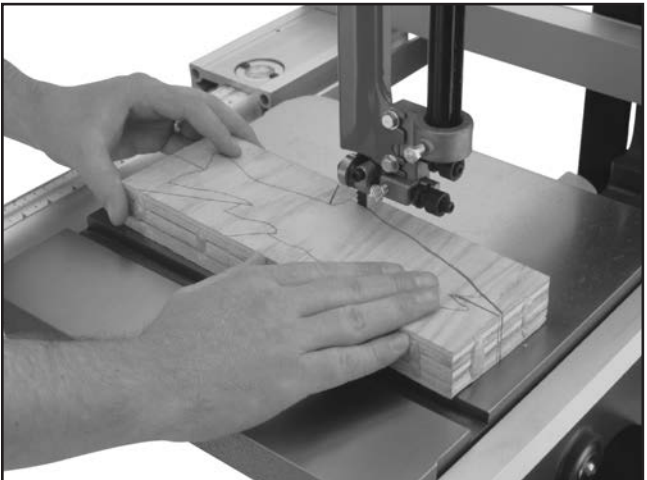

Figure 35. Typical stacked cut.
5. Cut the stack of pieces as though you were cutting a single piece. Follow your layout line with the blade kerf on the waste side of your line as shown in **Figure 35**.